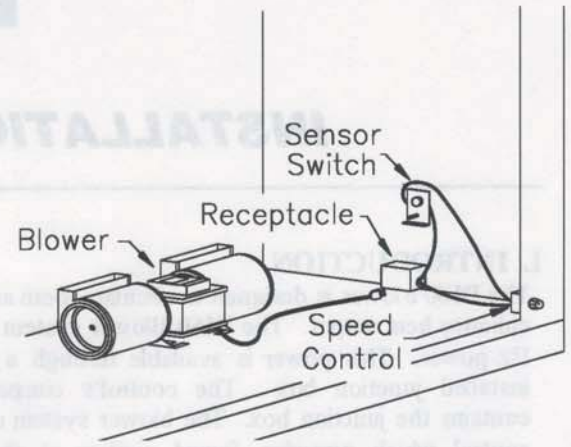

Fig. 4
2. On the outside of the combustion chamber, slide the temperature sensor switch/bracket assembly onto the weld stud. Secure the bracket assembly with the hex nut provided (Fig. 4) NOTE: The weld stud is located on the bottom of, or on the right hand side of the combustion chamber. NOTE: The sensor switch/bracket assembly **MUST** be installed so that the sensor switch is towards the top of the unit.